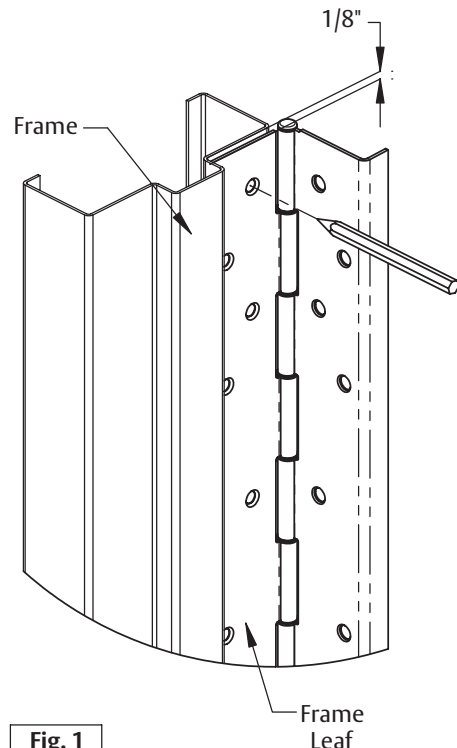

Fig. 1
- A. Place hinge frame leaf on frame. Position top of hinge $\frac{1}{8}$ " maximum below header. Place hinge firmly against face of frame. Fig. 1 & 2.